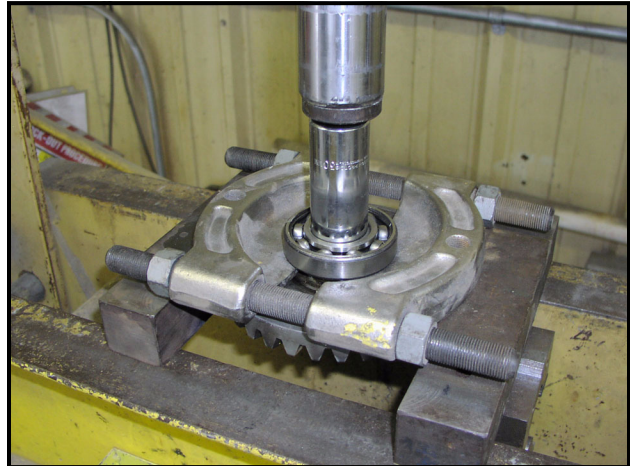

Figure 10-12 Ring Gear Bearing
1. Use a bearing puller wedge and press the bearing from the ring gear hub (**Figure 10-12, Page 10-6**).